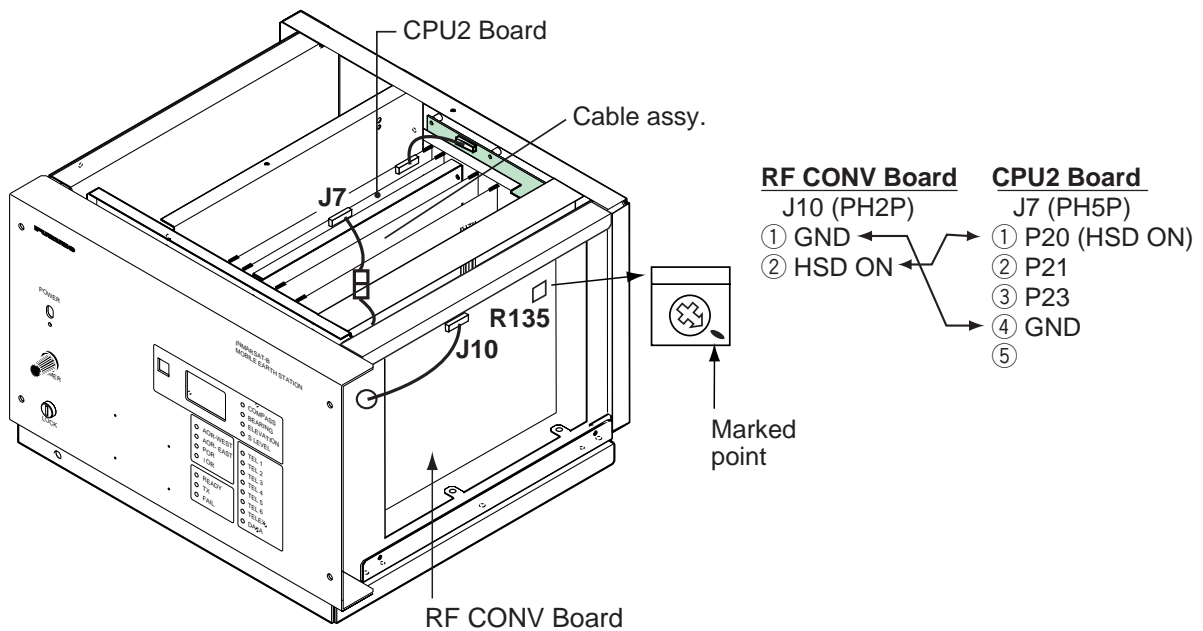

Figure 19 Communication unit, cover removed, right side view
- e) For the new RF CONV Board, set R135 according to antenna cable length as shown in the table below. See Figure 19 for the location of R135.
4. Remove the CPU2 Board from the communication unit. See Figure 19 for location.